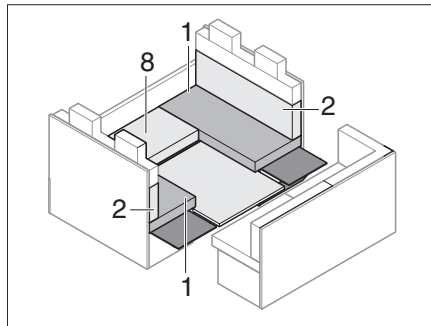

Fig. 177 During conversion
- Remove the seat cushion (Fig. 177,8) and the base.